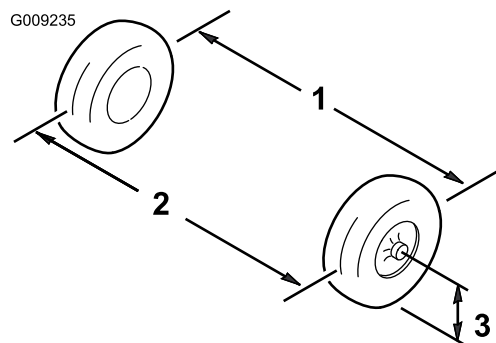

Figure 46
1. Measure the distance between both of the front tires at the axle height at both the front and rear of the front tires (Figure 46).